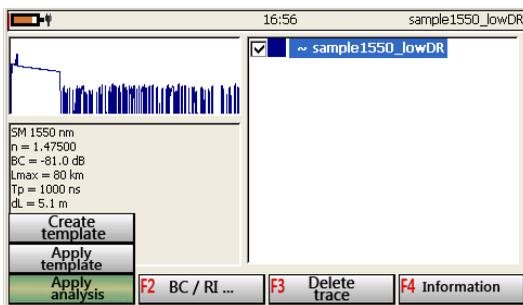

Figure 7.27
7.6.12.1 When you press the [F1 Analysis...] button and then [Apply analysis] (see Figure 7.27), the program:
When you press [F1 Analysis...], the pull-up menu appears (Figure 7.27). Here you can create and apply a template to your measurement.
To create a template corresponding to the events of some trace it is necessary to choose the trace in the list, press the button [F1 Analysis...] and then select [Create template] (see Figure 7.27). The selected trace is saved as “template” and after that you can apply it to other traces. A template being created, the message “Template has been created” appears.